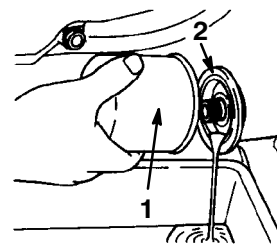

Figure 34
5. Place a suitable drain pan under the oil filter connection (Fig. 34).